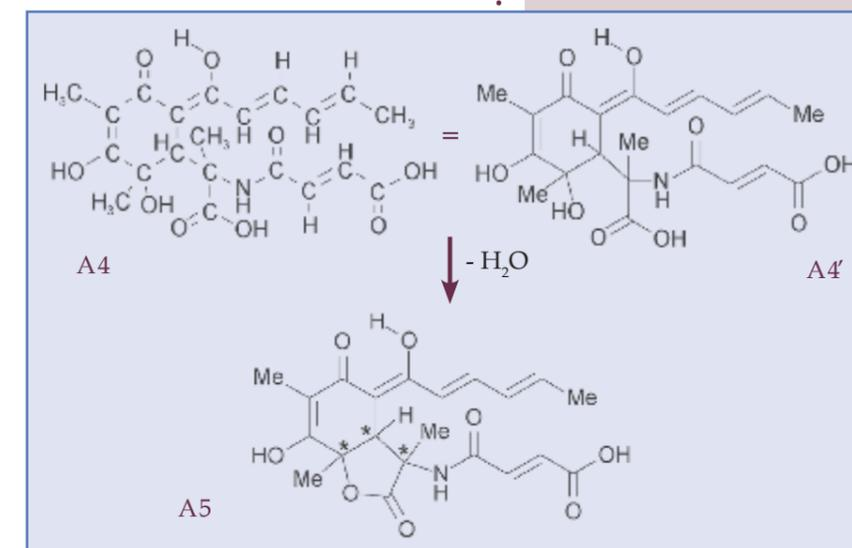

Fig. 5: Illustration of the established still flat structure of the new agent sorbicillactone A
Advanced NMR investigations, using the so-called HMBC method, have the ability to explore proton-carbon correlations across multiple bonds, thus providing information as to which locations on the 6-ring structure (A1) the two side structures (A2 and A3) were connected, and suggested the total structure A4 or, in a clearer notation, A4' (Fig. 5). Here each corner of the hexagon, each point in the zigzag chain, denotes a C atom.
Indeed, the structure was not complete. Again mass spectrometry was used clearly demonstrating that the actual structure of the new natural product had to be lighter than the postulated structure A4, namely be 18 mass units. 18 is exactly the mass of a molecule of water. Thus the actual natural product is characterized by the loss of an  $H_2O$  molecule, and the formation of a consecutive additional 5-membered ring with an integrated oxygen (O), a lactone ring. (Fig. 5, A5). This
However, is the **A5** structure now totally complete? Hardly, because the molecule really can't be as flat as depicted in Fig. 5. In particular the three carbon atoms highlighted with a \* have their four partners arranged in four different directions in space, corresponding to a tetrahedron. This raises a question: in which directions in space are the two methyl groups (Me) and the hydrogen (H) located at the 6-5-ring system pointing? Upwards or downwards? Or verbalized in the language of the chemist: